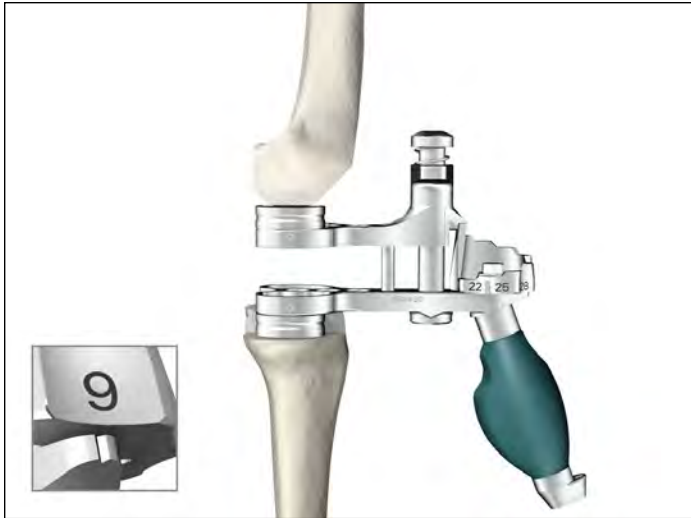

Figure 23A
- The numbers on the thumbwheel are designed to correspond to the implant insert thickness. Lift the upper paddle grip to free the adjustment wheel. Align the notch with the appropriate thickness (Figure 23A) and assess the gap space until the appropriate insert thickness is established. Read the measurement off of the knob to determine the tibial insert thickness. Remove the Adjustable Spacer Block from the joint space.